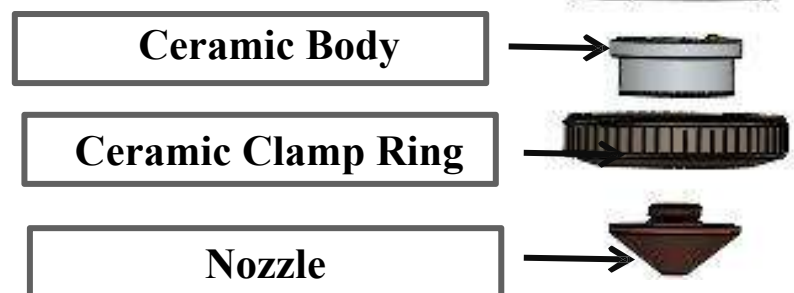

Figure 5.0
- ① Remove the nozzle counterclockwise, as shown in Figure 5.0.
- ② Unscrew the ceramic clamp ring counterclockwise, as shown in Figure 5.0.
- ③ Remove the ceramic body vertically downward, as shown in Figure 5.0.